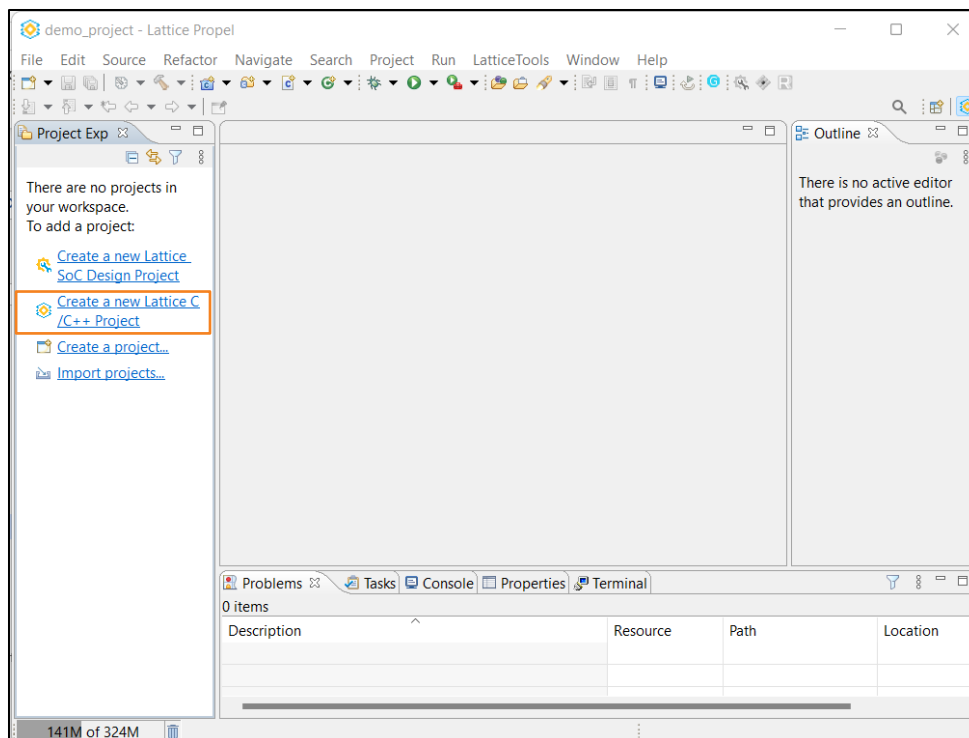

Figure 3.2. Propel SDK Workspace Environment
4. Select **Create a new Lattice SoC Design Project**, as shown in Figure 3.2.